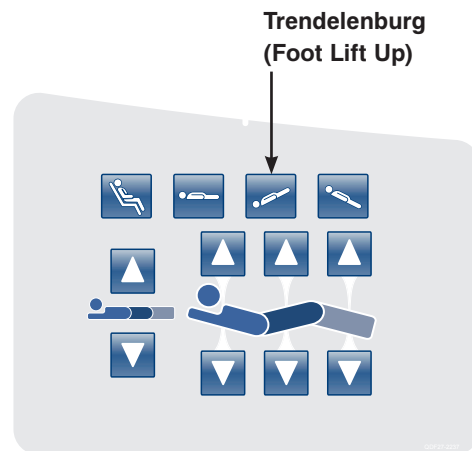

Figure 14: Head Siderail Control Panel
14. Place the bed at +12 degrees Trendelenburg by pressing the **Trendelenburg (Foot Lift Up)** button as shown in Figure 14. Verify +12 degrees +/- 0.1 with the inclinometer you previously placed on the litter frame in step 11.